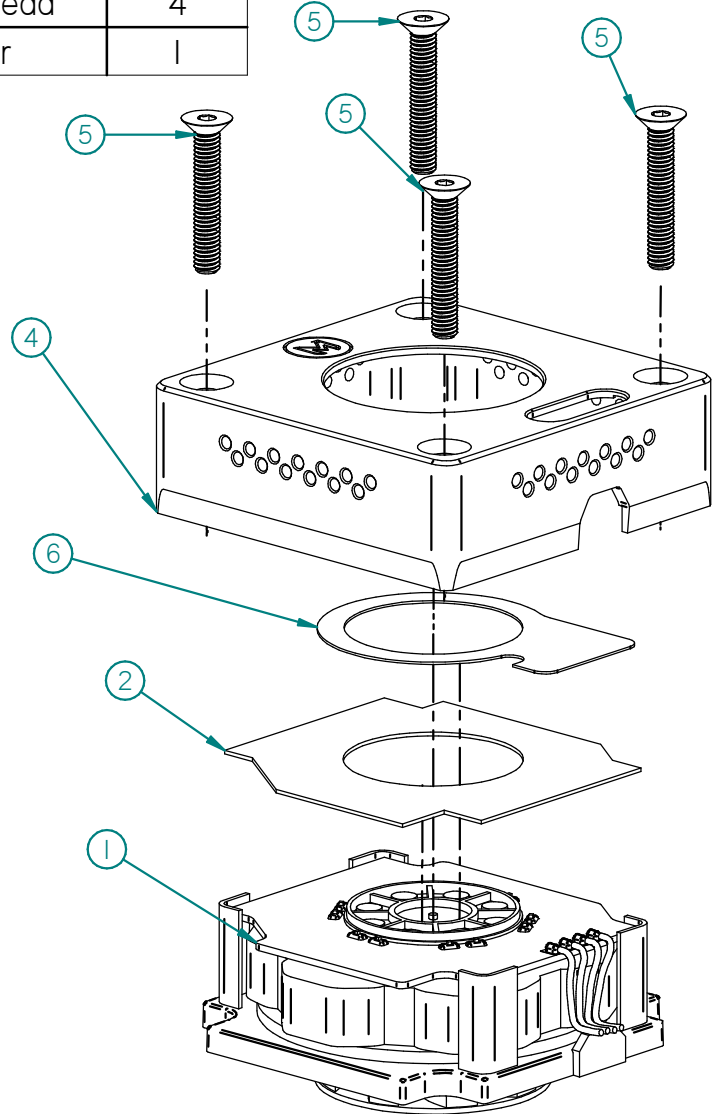

fig 2.55
Step 5. Install black insulator sheet (item #6) on top of thermal pad as shown in fig2.55. Insulator sheet it designed to prevent external intrusions from shorting on motor coils, or power wiring.